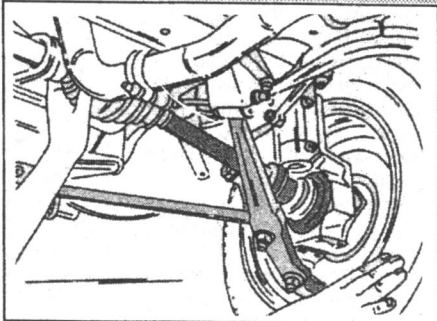

Fig. 1.7. — Removal of the R.H. drive shaft. Push the wheel towards the outside, until the tri-axe joint can be removed from the support bearing.
- The suspension arm is now gripped as shown in Fig. 1.7 and push the steering knuckle together with the wheel towards the outside. This will free the inner tri-axe joint from the shaft. Take off the aluminium bearing assembly, and "deposit" the drive shaft onto the lower suspension arm.